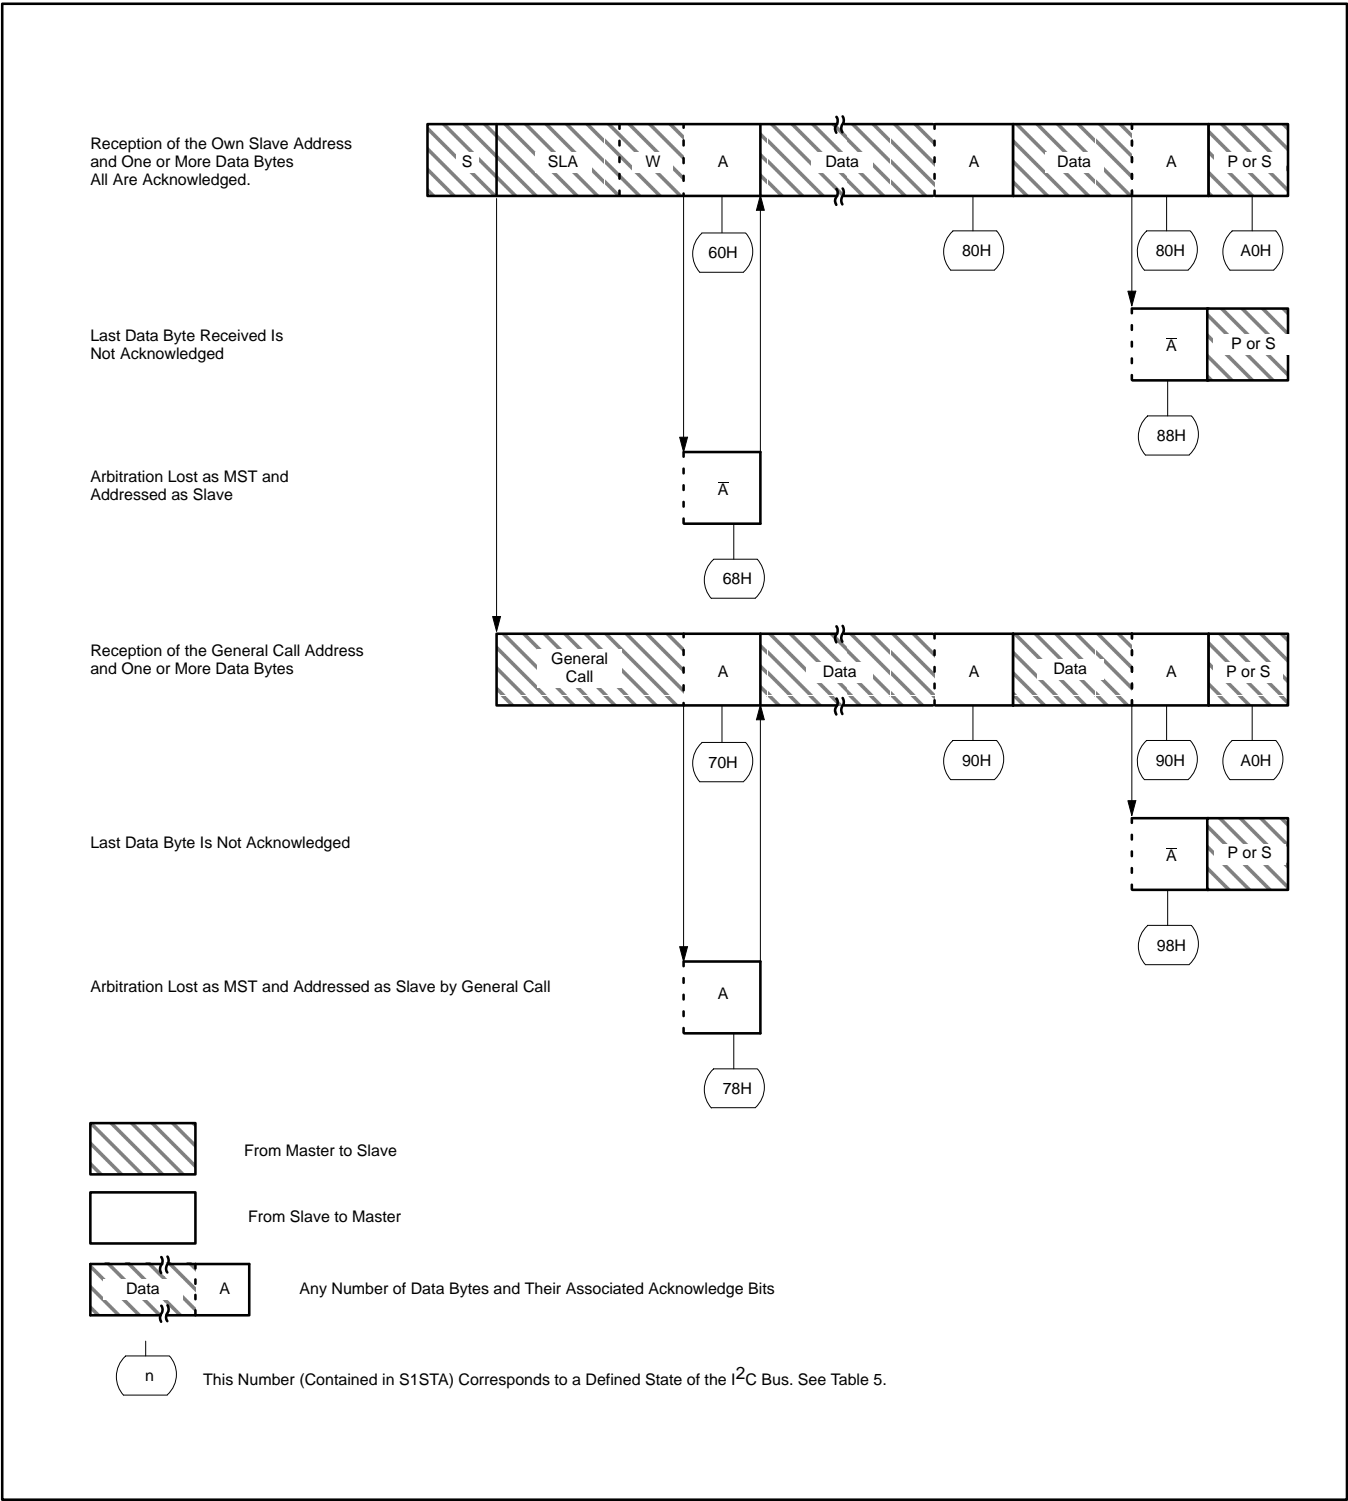

Figure 19. Format and States in the Slave Receiver Mode
**Slave Receiver Mode:** In the slave receiver mode, a number of data bytes are received from a master transmitter (see Figure 19). To initiate the slave receiver mode, S1ADR and S1CON must be loaded as follows: